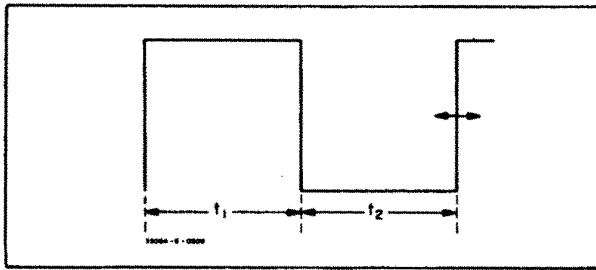

Figure 5-5. Symmetry Adjustment
- c. Measure t_1 and adjust A13R22, LOWER FREQ. SYM., to make $t_2 = t_1$. Ref. Figure 5-5. If A13R22 does not have enough range change A13Q20.